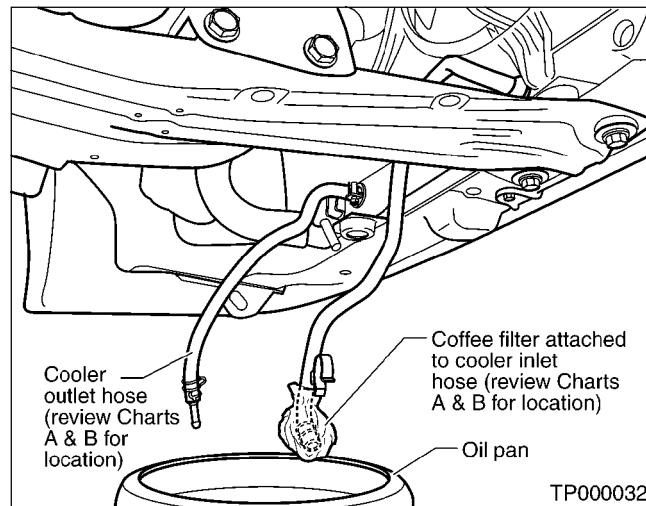

Figure 8
5. Tie a common white, basket-type coffee filter to the end of the Cooler Inlet hose (see Figure 8).